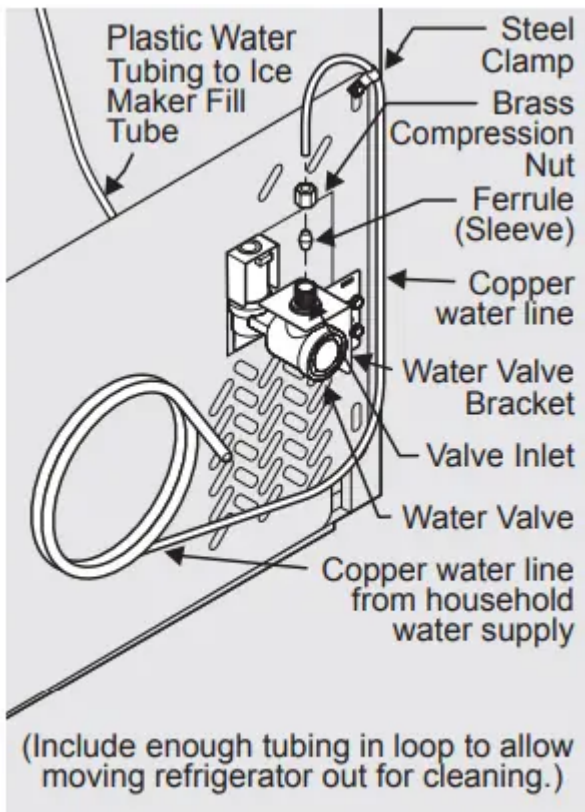

Figure 1
4. If you use copper tubing - Slide brass compression nut, then ferrule (sleeve) onto water supply line. Push water supply line into water valve inlet as far as it will go (¼ inch/6.4 mm). Slide ferrule (sleeve) into valve inlet and finger tighten compression nut onto valve. Tighten another half turn with a wrench; DO NOT over tighten. See **Figure 1**.